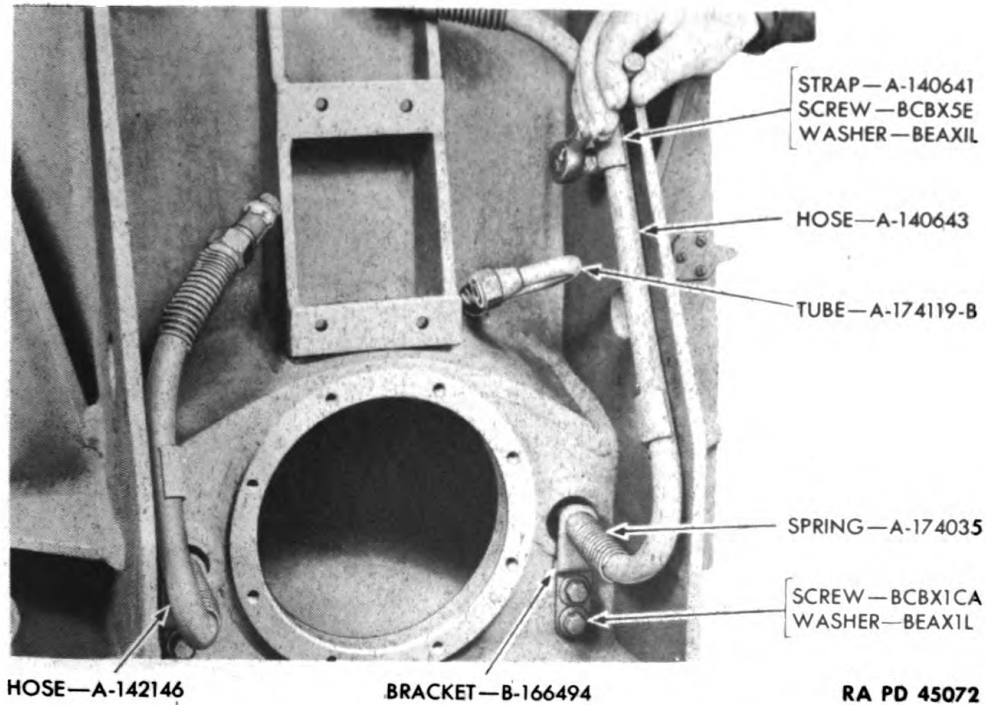
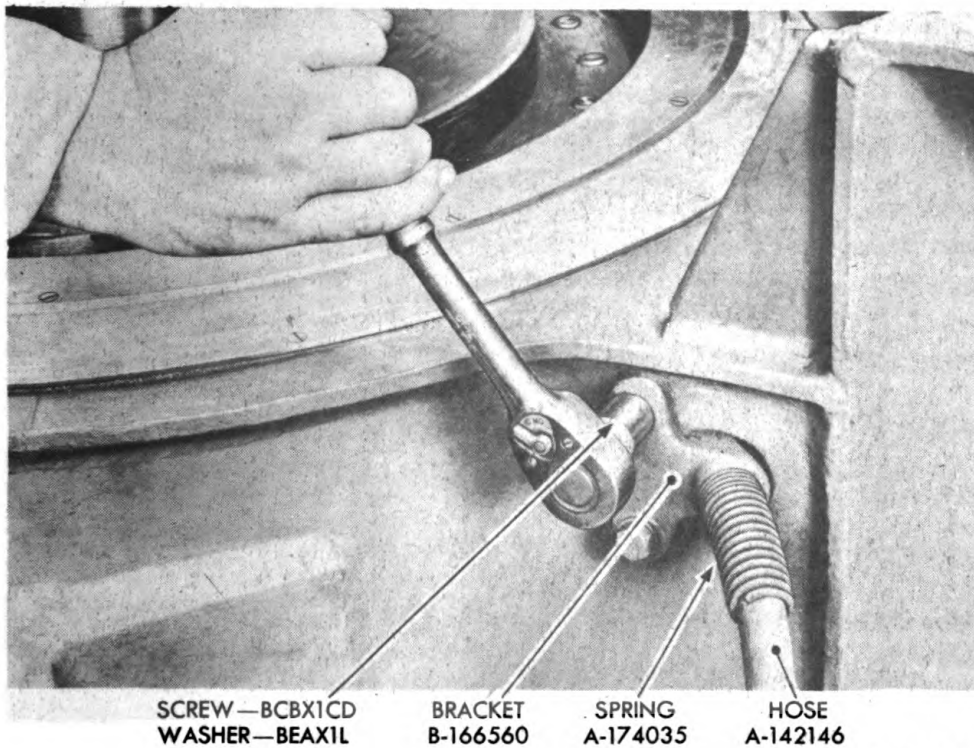

Figure 220—Removing Air Line Hose Strap
Figure 221—Removing Air Line Hose Support Rear Bracket
tube A174119B (fig. 220) from bottom carriage unless defective or damaged and require replacement. Tube A174119B must be straightened to be removed and hoses must be cut off.
(11) If hoses A140643 and A142146 are defective, remove screws BCBX5E and washers BEAX1L from three hose straps A140641 (fig. 220), and remove straps. Remove four screws BCBX1CA and washers BEAX1L from two brackets B166494 (fig. 220). Cut off end of hose A140643 and A142146 below slotted brass connector ring (fig. 229). Slide two springs A174035, connector nut, and bracket B166494 from each hose.
(12) Remove two screws BCBX1CD and washers BEAX1L from each of the two brackets B166560 mounted on the rear of bottom carriage (fig. 221). Pull hose A142146 or A140643, spring A174035, and bracket B166560 from bottom carriage.
(1) If air line hoses A142146 and A140643 have been removed (par. 82 d (11) and 12)), install as follows: Slide the air line hose with rear air line hose support bracket and spring assembled, through bottom carriage from rear (fig. 221). Coat bracket retaining screw threads with COMPOUND, rust-preventive, light. Secure the bracket to bottom carriage with two retaining screws and washers. Slide front hose support bracket, two springs, and connector nut on front end of air line hose after it is pushed through opening in front end of bottom carriage (fig. 220). Slide the brass connector ring on hose with long slots to front end of hose. Cement the hose end washer in place and insert end of connector in hose (fig. 229). Join parts of connector. Coat threads of hose strap and front hose support bracket retaining screws with COMPOUND, rust-preventive, light. Secure straps and brackets to bottom carriage with retaining screws and washers.